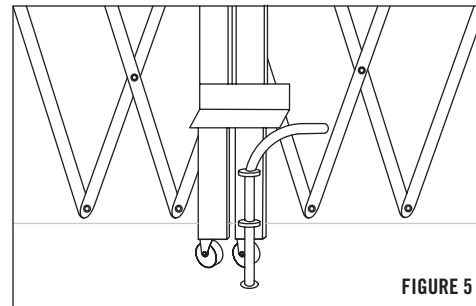

FIGURE 5
- 5) With center drop pin raised, extend both halves of gates together to center of opening, mark floor for center drop pin hole and drill a 3/4" diameter x 3" deep hole. Lower center drop pin (Note: some larger gates have an additional pin in the center of each web, mark and drill these last.) Open gates slowly at first to avoid warping. (See Figure 5)